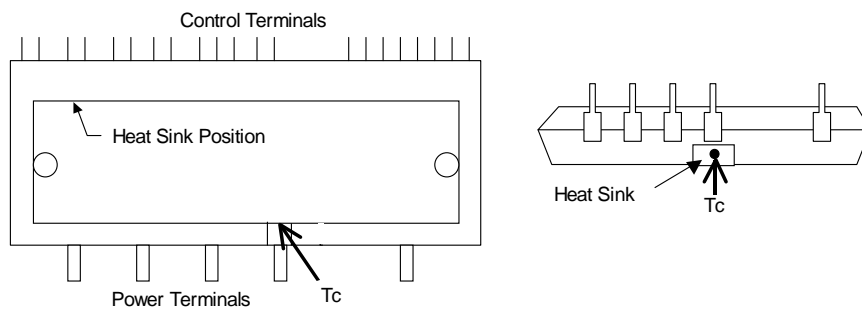

Fig. 10 Case temperature measurement point
Please measure the case temperature at the position as shown in Fig. 10.
- A large charge current of the electrolytic condenser will flow on the DIP-PFC when applying AC supply, which might cause destruction. Therefore, An Inrush current prevention circuit shown in Fig. 10 is necessary. Open the relay when condenser Co is initially charged, and close it after the charge is over.